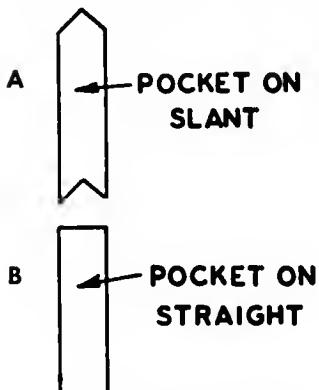

Fig. 128. Welt.
5. If the welt is slanted, the piece will be arrow-shaped (Fig. 128, a); if it is on the straight, it will have straight ends (Fig. 128, b).